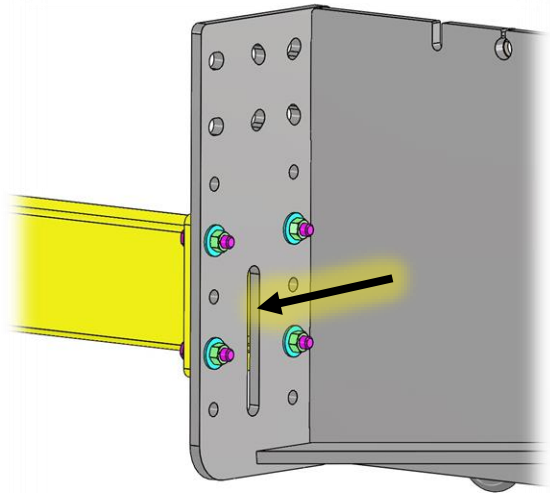

Figure 1-B
Step 2 - The sides of the bumper have slots to route wires to the light bars, see Fig. 1-B. The 48" wire bundle goes to the driver side light bar, the 70" wire bundle goes to the passenger side light bar, and the 22" wire bundle goes to the bumper hitch plate, see Fig. 2-A. Route the wires to their respective locations.